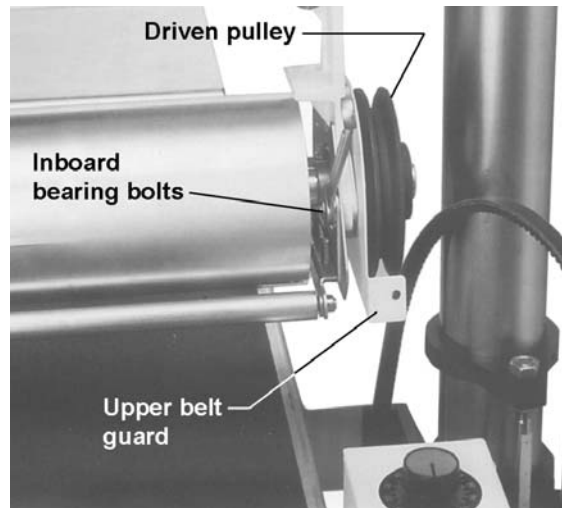

Figure 35
8. Remove the bolts holding the inboard (right) bearing in place (Figure 35). Slide the inner half of the upper belt guard off the end of the shaft along with the bearing.
11. Install the driven pulley (shown in Figure 35) making sure it aligns with the drive pulley on the motor. Tighten the set-screw.